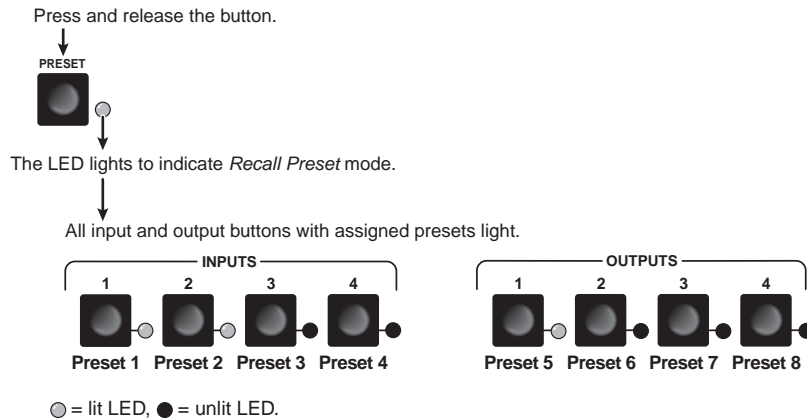

Figure 3-29 — Select Recall Preset mode, MAV 44
1. Press and release the Preset button (figure 3-29).